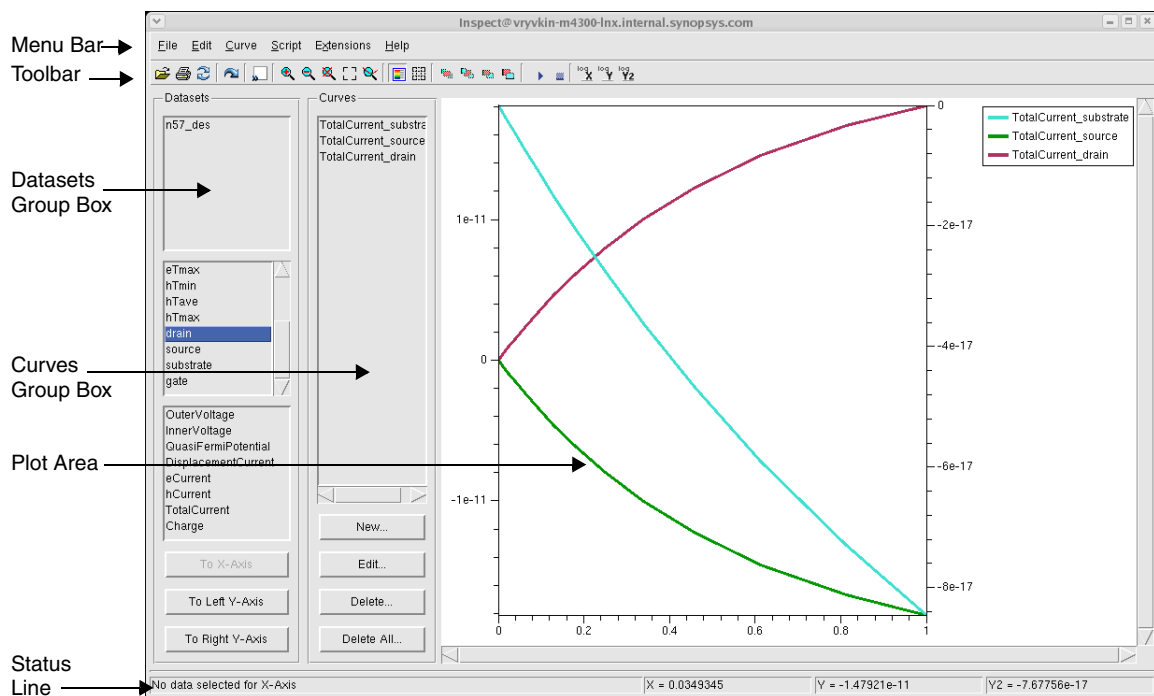

Figure 1 Main window of Inspect showing work areas
The graphical user interface (GUI) of Inspect has the following work areas (see Figure 1):
- The *top pane* lists the currently loaded data files (or *projects*). In the example shown in Figure 1 on page 2, only one data file `n57_des` has been loaded (the file extension is not displayed).
- The *middle pane* lists the names of the dataset groups belonging to the selected data file. A group having one or more datasets can correspond to an electrode or a thermode of a device. Datasets that do not belong to any group are also displayed. In Figure 1, `hTave` and `hTmax` are independent datasets. In addition, `drain`, `source`, `substrate`, and `gate` are groups, each having several datasets.